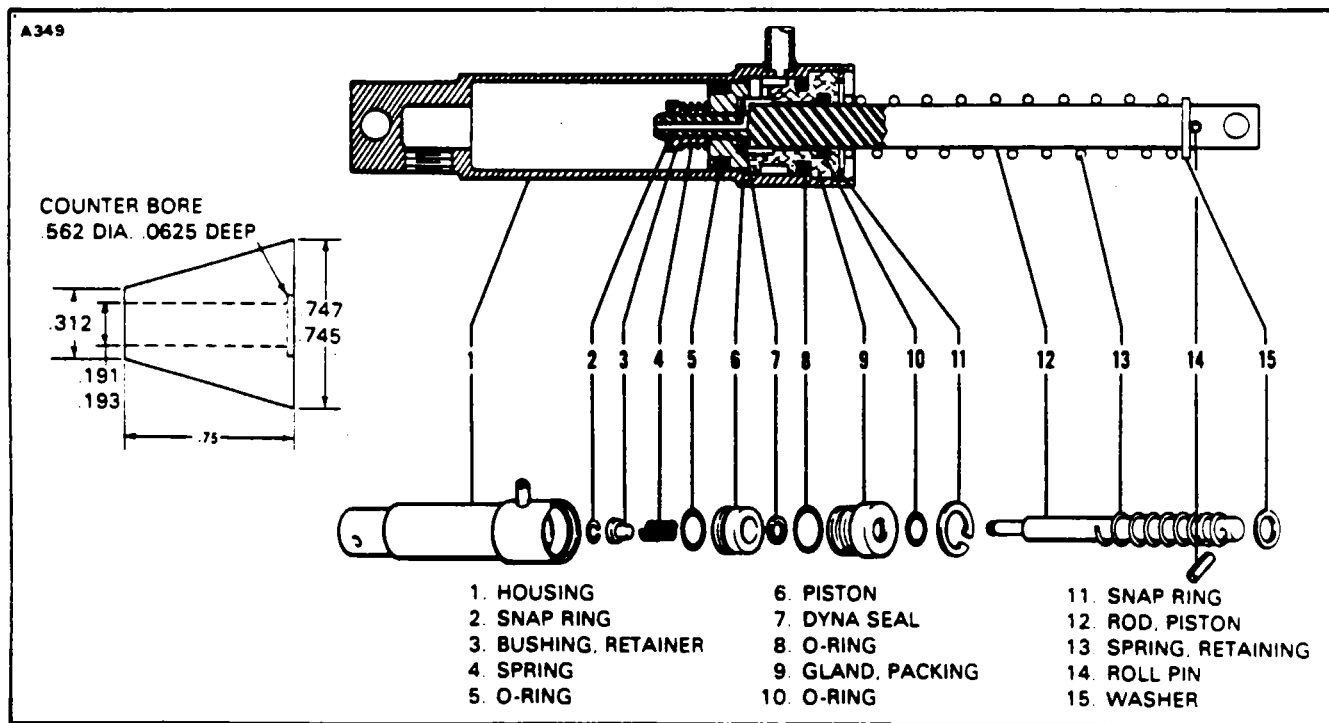

Figure 32-13. Brake Master Cylinder (Hand Parking Brake)
1. Install new O-ring on the inside and outside of the packing gland and on the outside of the piston. (When installing teflon O-ring on piston, it is recommended that it be installed with the use of a cone placed against the piston. The cone may be constructed of plastic or metal with dimensions shown in Figure 32-13.)